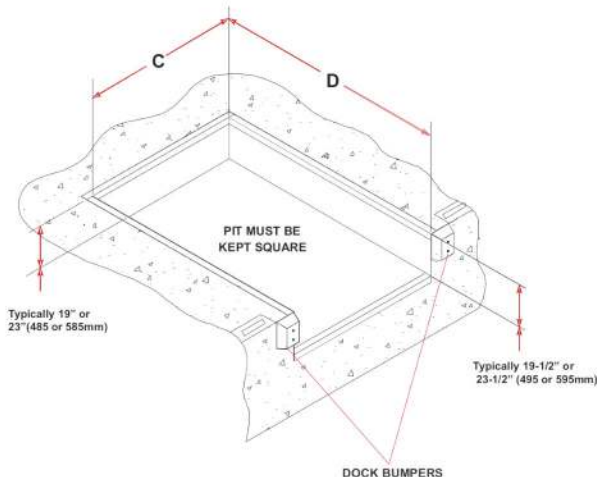

Figure 2 : Pit Layout - Typical
2. Measure height of rear corners of dock leveler, bottom of frame to top of deck plate, typically 19" or 23"(485 or 585mm). Measure depth of pit at both rear corners where rear bottom corners of frame will be positioned. Locate and place suitable shims (not supplied) in pit corners to produce a depth to match frame height. See Figure 2, Page 3.
3. Measure height of front corners of dock leveler, bottom of frame to top of deck plate, typically 19-1/2" or 23-1/2" (495 or 595mm). Measure depth of pit at both front corners where front bottom corners of frame will be positioned. Locate and place suitable shims (not supplied) at both front corners to produce a depth to match frame height. See Figure 2, Page 3.
4. Using extreme caution, sling dock leveler into place squarely above pit and lower gently onto pre-located shims. Locate and square dock leveler to best suit pit and dock face. Space between sides of deck and sides of pit should be equal. See Figure 2 Page 5.